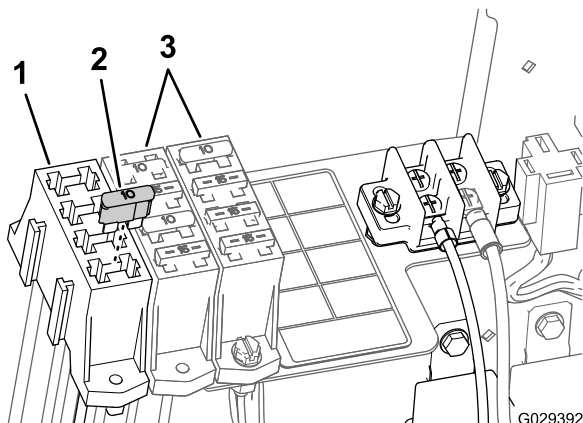

Figure 24
2. Install the 15-amp fuse into the socket that you located in the auxiliary-fuse block (Figure 24).